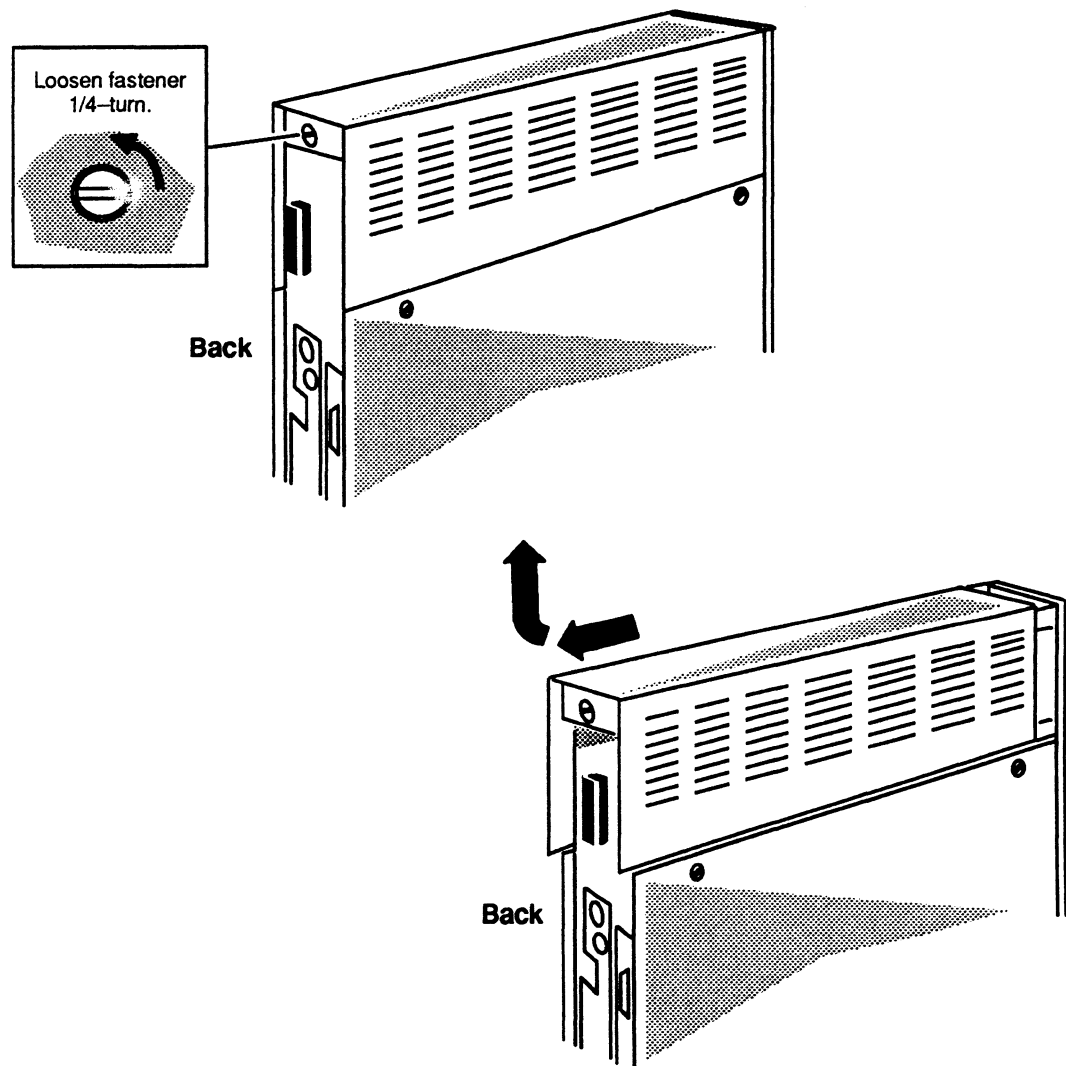

Figure 1-10 Removing the Top Cover
1. Using a coin or screwdriver, loosen the fastener by turning it one-quarter turn counterclockwise as shown in Figure 1-10.
2. Push the top cover toward the back of the computer unit and remove the cover as shown in Figure 1-10.